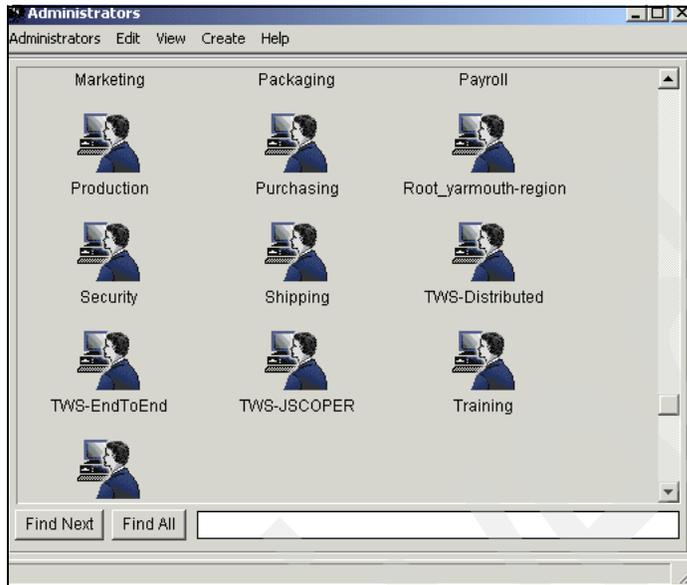

Figure 16-9 Tivoli Administrator desktop
7. Click **Set & Close** to finish your input. This returns you to the Administrators desktop (Figure 16-9 on page 499).